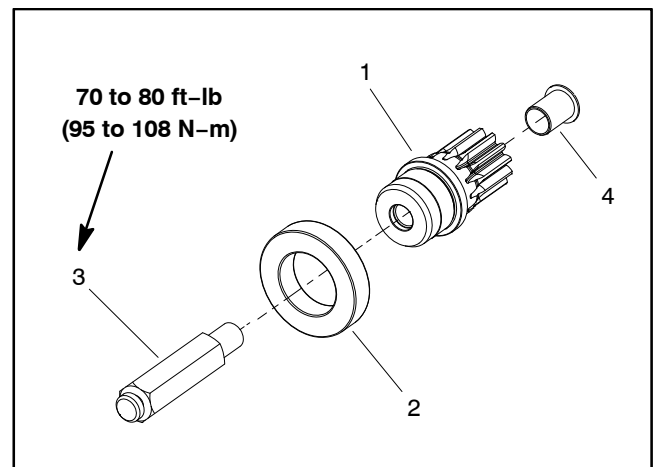

Figure 29
4. If necessary, disassemble spur gear assembly (Fig. 29).
1. If long spur gear (item 8) was removed from drum drive housing, slide gear into ball bearing in drive housing.
2. If spur gear assembly (Fig. 29) was taken apart, assemble as necessary:
3. Make sure that differential housing cavity is packed 20% to 30% full of high temperature Mobil XHP-222 grease (or equivalent). Slide differential assembly into drum drive housing (item 1) and onto long spur gear (item 8). Make sure that spur gear properly engages differential gears.
4. Place thrust washer (item 29) onto drum shaft (item 7). Insert drum shaft into differential assembly. Make sure that drum shaft properly engages differential gears.